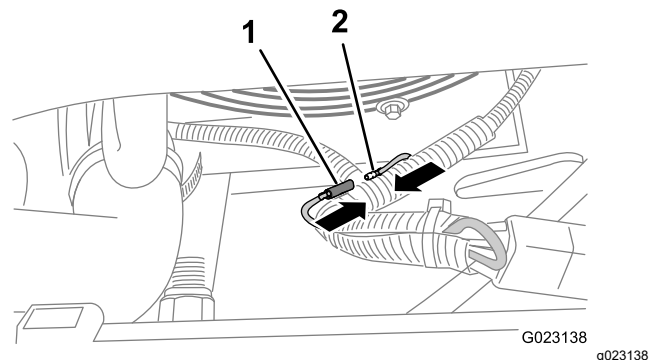

Figure 6
7. Remove the bullet-style lead from the gray wire coming from the engine-ignition module and install the lead to the connector at the end of the rear, key-start harness that was routed forward (Figure 6).